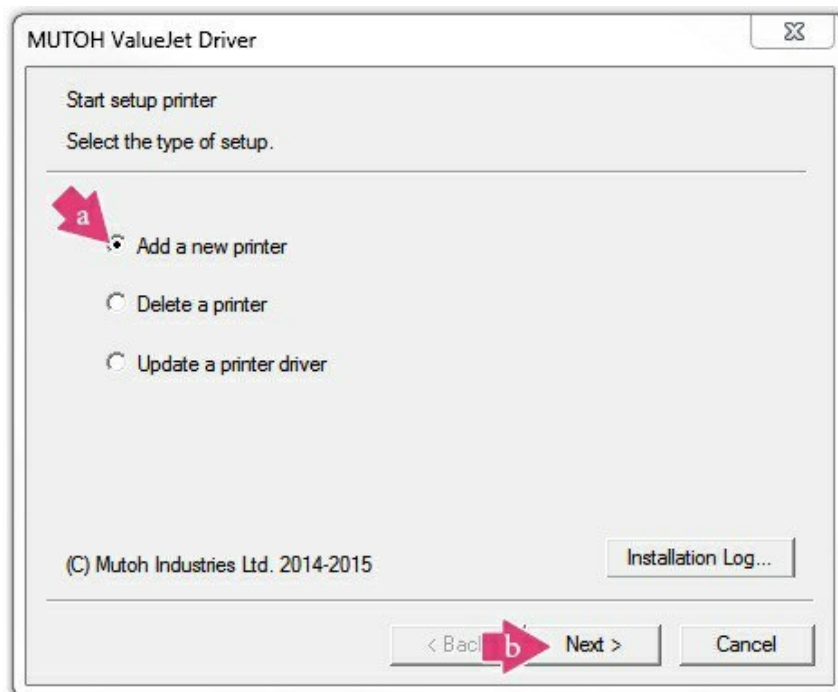

Figure 28
15. Select **Add a new printer (a)** and **Next (b)** to continue. See Figure 28.